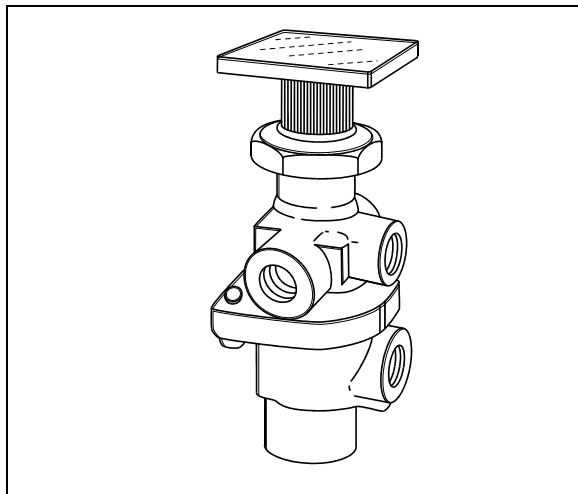

FIGURE 11: PP-1
2. Access this valve by tearing out the finishing panel, which holds the controls in place (Fig. 11).